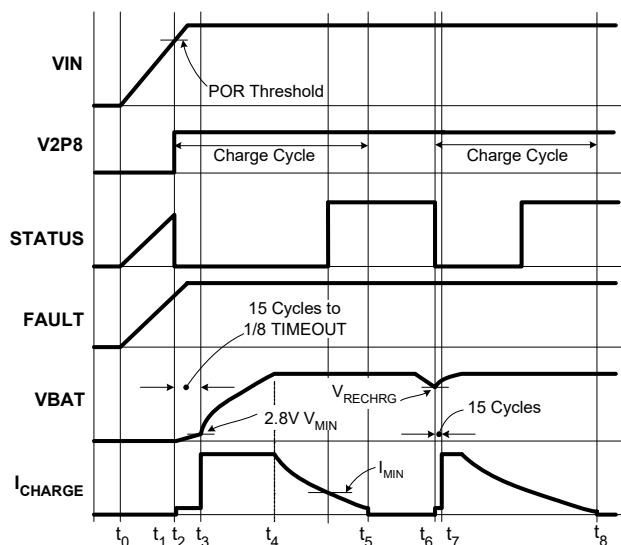

FIGURE 21. OPERATION WAVEFORMS
Figure 21 illustrates the typical signal waveforms for the linear charger from the power-up to a recharge cycle. More detailed Applications Information is given in the following.
The two indication pins, STATUS and FAULT, indicate a LOW and a HIGH logic signal respectively. Figure 21 illustrates the start-up of the charger between t_0 to t_2 .
A charge cycle consists of three charge modes: trickle mode, constant current (CC) mode, and constant voltage (CV) mode. The charge cycle always starts with the trickle mode until the battery voltage stays above V_{MIN} (2.8V typical) for 15 consecutive cycles of the internal oscillator. If the battery voltage drops below V_{MIN} during the 15 cycles, the 15-cycle counter is reset and the charger stays in the trickle mode. The charger moves to the CC mode after verifying the battery voltage. As the battery-pack terminal voltage rises to the final charge voltage V_{CH} , the CV mode begins. The terminal voltage is regulated at the constant V_{CH} in the CV mode and the charge current is expected to decline. After the charge current drops below I_{MIN} (programmable for the 4x4 and 5x5 package and programmed to 1/10 of I_{REF} for the 3x3 package; see "End-of-Charge (EOC) Current" on page 14 for more detail), the ISL6292 indicates the end-of-charge (EOC) with the STATUS pin. The charging actually does not terminate until the internal timer completes its length of TIMEOUT in order to bring the battery to its full capacity. Signals in a charge cycle are illustrated in Figure 21 between points t_2 to t_5 .
After a charge cycle completes, charging is prohibited until the battery voltage drops to a recharge threshold, V_{RECHRG} (see “Electrical Specifications” on page 6). Then a new charge cycle starts at point t_6 and ends at point t_8 , as shown in Figure 21. The safety timer is reset at t_6 .
The trickle mode charge has a time limit of 1/8 TIMEOUT. If the battery voltage does not reach V_{MIN} within this limit, a TIMEOUT fault is issued and the charger latches up. The charger stays in trickle mode for at least 15 cycles of the internal oscillator and, at most, 1/8 of TIMEOUT, as shown in Figure 21.
The end-of-charge current I_{MIN} sets the level at which the charger starts to indicate the end of the charge with the STATUS pin, as shown in Figure 21. The charger actually does not terminate charging until the end of the TIMEOUT, as described in "Total Charge Time" on page 13. The I_{MIN} is set in two ways, by connecting a resistor between the IMIN pin and ground, or by connecting the IMIN pin to the V2P8 pin. When programming with the resistor, the I_{MIN} is set in Equation 6.